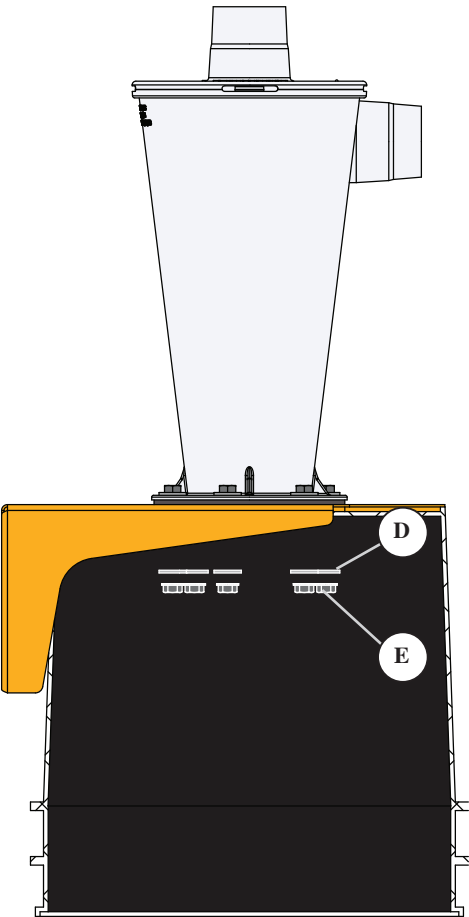

FIG. 11
- 11** Finish securing the Cyclone (A), Gasket (B), Wall Bracket (F), Gasket (B), and Bin (G) together using the remaining five Bolts (C), ten Washers (D), and five Whiz-Lock Nuts (E) [FIG. 11].